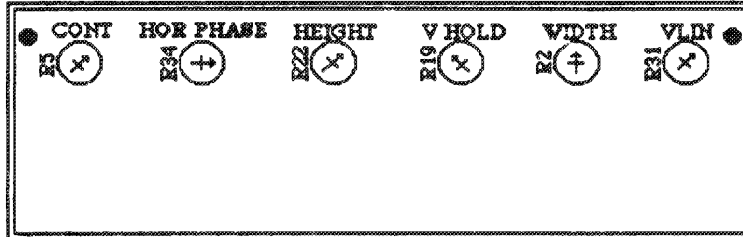

Figure 31 The CONT., HOR. PHASE, HEIGHT, V. HOLD, WIDTH, and V. LIN adjustments are at the top of the video board.
15. Locate the six adjustment potentiometers labeled "CONT.," "HOR. PHASE," "HEIGHT," "V. HOLD," "WIDTH," and "V. LIN" which are at the top of the video board. As shown in Figure 31, these adjustments have been sealed at the factory and will have to be unsealed and readjusted for use with the screen kit.